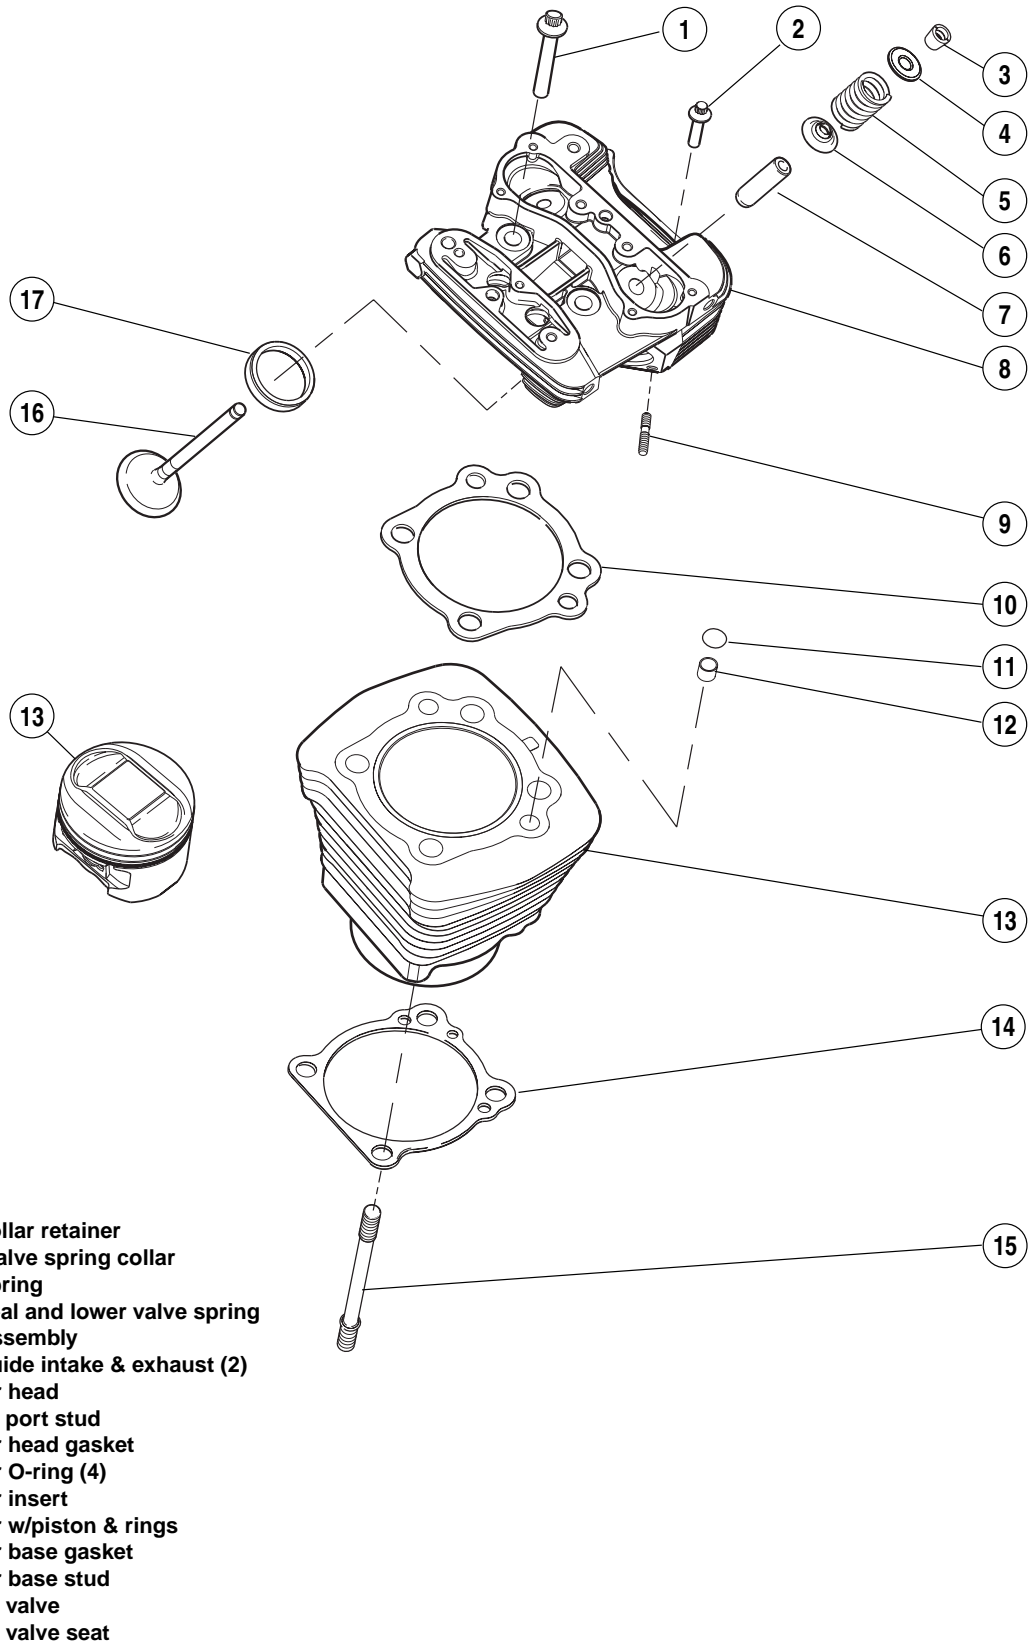

Figure 3-61. Cylinder Head, Cylinder and Piston Assembly
3. See Figure 3-61. Remove valve keepers, upper collar and valve spring. Mark valve keepers for reassembly in their original locations.